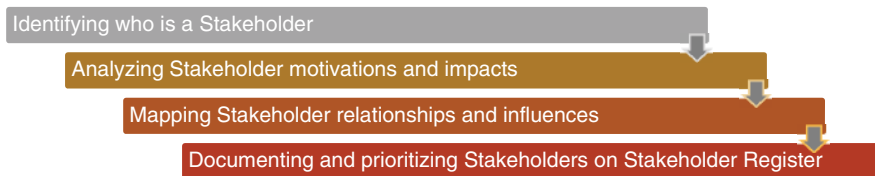

Figure 9.5 Identifying stakeholders.
The process of Identifying Stakeholders involves four distinct steps: (1) identifying who is a stakeholder, (2) analyzing stakeholder's motivations and potential impacts on the project, (3) mapping stakeholder relationships and influences, and (4) listing and prioritizing stakeholders on the Stakeholder Register. More time and effort should be spent on these four tasks for larger and more complex projects, but all projects should go through the four steps in Figure 9.5.